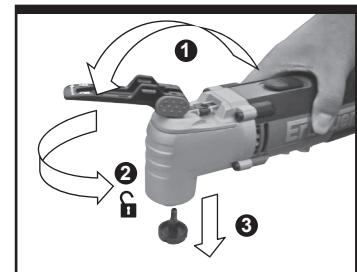

Fig. 1
- Flip the Tool Free Accessory Clamping Lever forward to the open position (See Fig.1).
- Rotate the Clamping Lever counter-clockwise to loosen the Flange. (See Fig. 1)